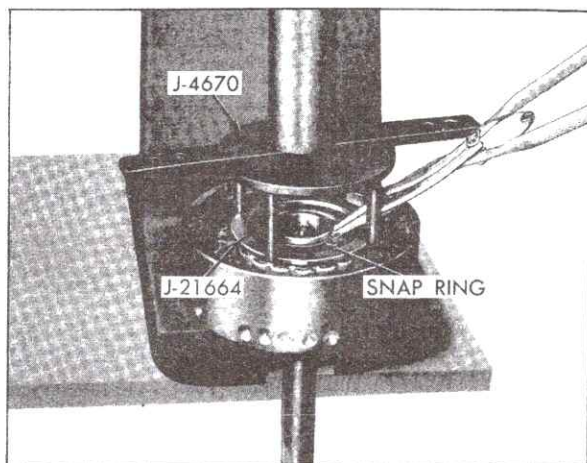

Fig. 7-64 Removing and Installing Forward Clutch Housing Snap Ring
7. Using Clutch Spring Compressor, J-4670, and Adapter, J-21664, compress spring retainer with arbor press and remove snap ring using Snap Ring Pliers, J-8059 or J-5586, Fig. 7-64.
7. Using Clutch Spring Compressor, J-4670, and Adapter, J-21664, compress spring retainer with arbor press, being careful that retainer does not catch in snap ring groove, and install snap ring using Snap Ring Pliers, J-8059 or J-5586, Fig. 7-64. Remove tools.